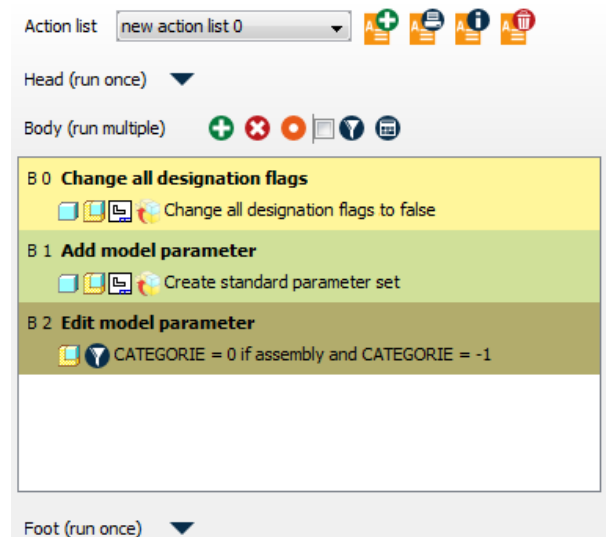

Figure 11 - Action list with 3 actions
7. After the extended filter has been created, add the action to your action list. It should now look like in “Figure 11 - Action list with 3 actions”.